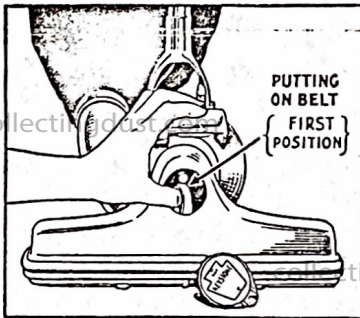
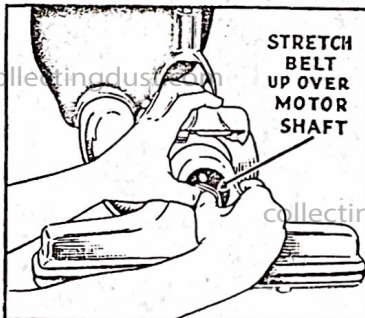
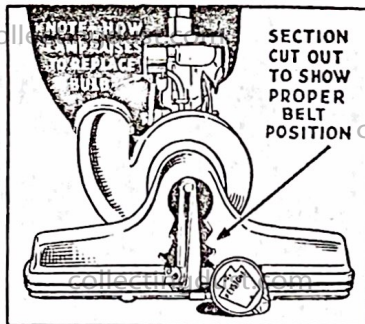

Fig. 3
Fig. 4
Fig. 5
This gives access to the belt which drives the brush. Place the left thumb through the belt (See Fig. 3). Pull belt forward and upward. Now place the right thumb through the belt beside the left thumb and, using both thumbs, stretch belt upward and slide belt over end of motor shaft (See Fig. 4). Fig. 5 shows correct position of belt. Replace cap on nozzle.
**Lamp Replacement** Raise light cover which is hinged at the back (See Fig. 5). Lamp base is the bayonet type. Turn bulb slightly counter-clockwise and pull out. Your dealer can supply new bulbs or write to our factory.